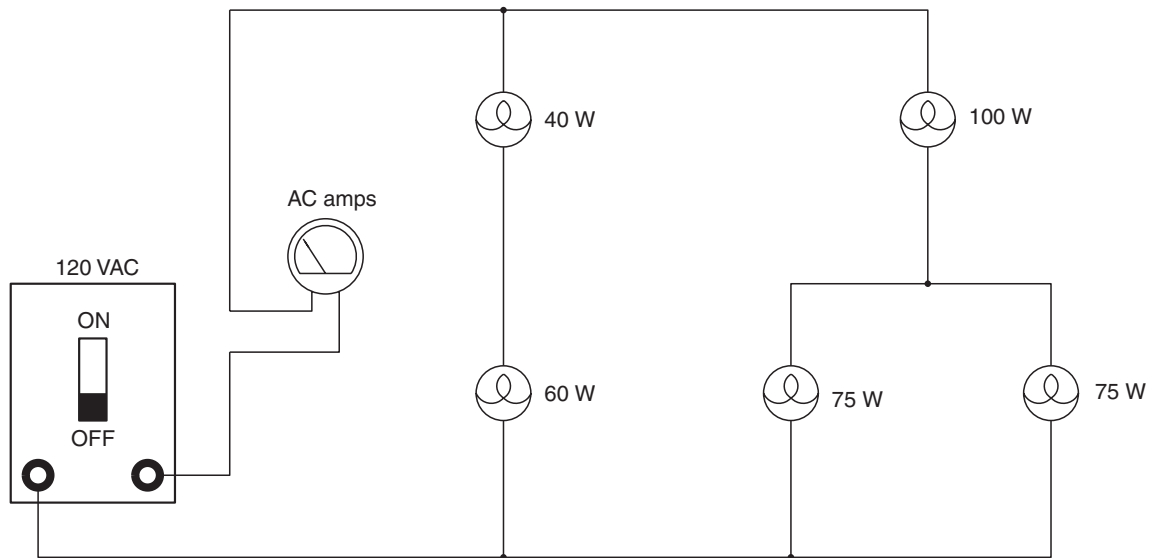

Figure 5-19 Measuring total circuit current.
18. Connect an AC ammeter in the circuit in a position to measure the total circuit current, as shown in Figure 5-19.